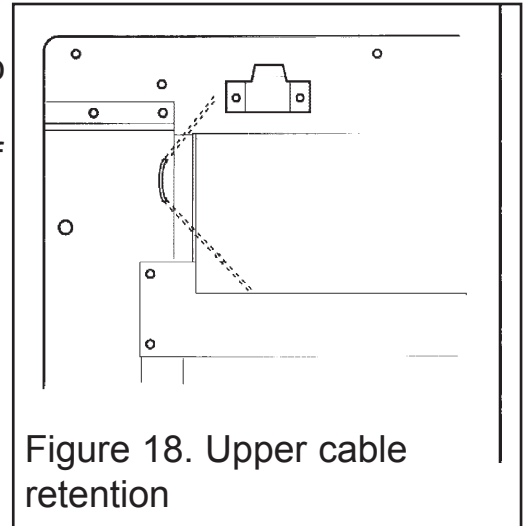

Figure 18. Upper cable retention
5. The convection box has two holes at each side of the convected air opening. Insert one end of each cable (one cable each side) from the back through the lower of the two holes and return the end through the upper of the holes (See figure 18). Give the cables a pull so that they grip against the convection box flanges.